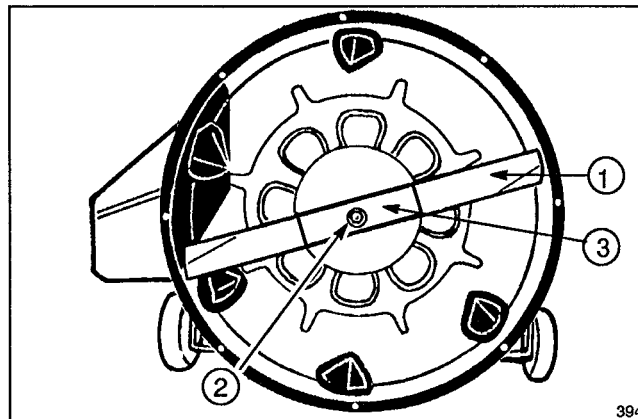

Figure 27
6. Grasp end of blade using a rag or thickly padded glove; then remove blade bolt, washer, blade stiffener and blade (Fig. 27).
9. In sequence, install blade, blade stiffener, washer and blade bolt (Fig. 27). Tighten blade bolt to 45-60 ft-lb (61-81 N-m).
6. Since rider is tipped on end, check condition of blade (Fig. 27).